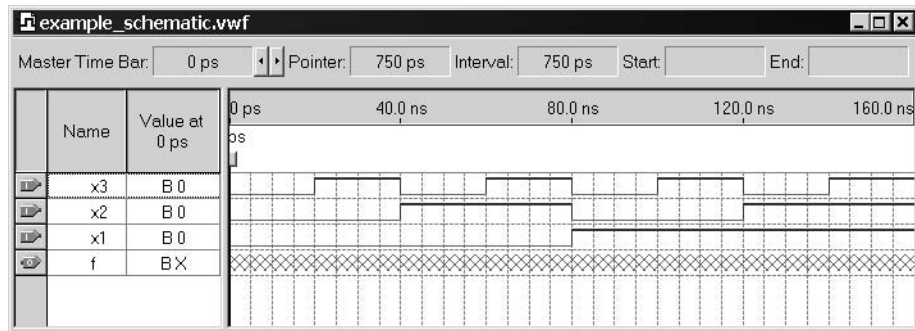

Figure B.23 The complete test vectors.
To simulate the behavior of a large circuit, it is necessary to apply a sufficient number of input valuations and observe the expected values of the outputs. The number of possible input valuations may be huge, so it is necessary to choose a relatively small (but representative) sample of these input valuations. (The topic of circuit testing is explored in Chapter 11.) Our circuit is very small, so it can be simulated fully by applying all eight possible valuations of inputs x_1 , x_2 , and x_3 . Let us apply a new valuation every 20 ns. To start, all inputs are zero. At the 20-ns point we want x_3 to go to 1. Click on x_3 ; this highlights the signal and activates the vertical toolbar that allows us to shape the selected waveform. If this toolbar is not visible, it can be opened by first selecting **Tools > Customize Waveform Editor**, and then clicking to enable the toolbar called **Waveform Editor**. The toolbar provides options such as setting the signal to 0, 1, unknown (X), high impedance (Z), don’t care (DC), and inverting its existing value (INV). Observe that the output f is displayed as having an unknown value at this time, which is indicated by a hashed pattern. A specific time interval is selected by pressing the mouse on a waveform at the start of the interval and dragging it to its end; the selected interval is highlighted. Select the interval from 20 to 40 ns for x_3 and set the signal to 1. Similarly, set x_3 to 1 from 60 to 80 ns, 100 to 120 ns, and 140 to 160 ns. Next, set x_2 to 1 from 40 to 80 ns, and from 120 to 160 ns. Finally, set x_1 to 1 from 80 to 160 ns. Complete these assignments to obtain the image in Figure B.23 and save the file.
Functional simulation of the VHDL code is done in exactly the same way as the simulation described earlier for the design created with schematic capture. Create a new Waveform Editor file and select **File | Save As** to save the file with the name *example_vhdl.vwf*. Following the procedure given in section B.3.3, import the nodes in the project into the Waveform Editor. Draw the waveforms for inputs *x1*, *x2*, and *x3* shown in Figure B.23. It is also possible to open the previously drawn waveform file *example_schematic.vwf* and then “copy and paste” the waveforms for *x1*, *x2*, and *x3*. The procedure for copying waveforms is described in **Help**; it follows the standard Windows procedure for copying and pasting. We should also note that since the contents of the two files are identical, we can simply make a copy of the *example_schematic.vwf* file and save it under the name *example_vhdl.vwf*.